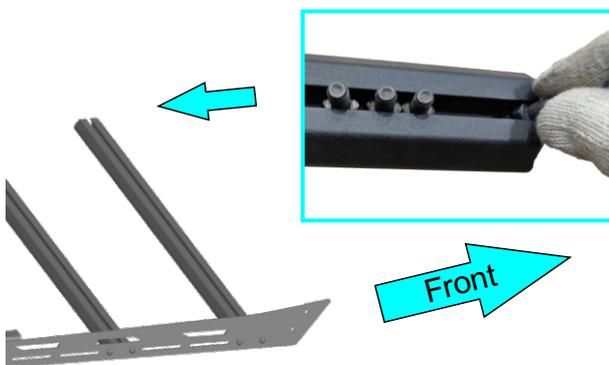
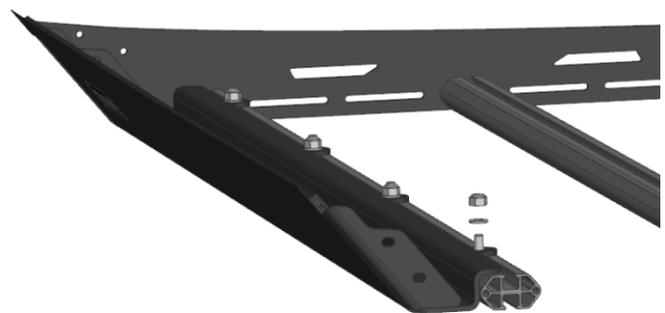

Fig. 14
Fig. 15
12. Insert 4 M8x20 bolts (item B) into the T-slot of the front aluminum profile (item 2) as shown in fig. 14. Secure wind deflector (item 1) to the pre-installed aluminum profile using M8x20 bolts (item B), washers 8 (item J), nuts 8 (item G) as shown in fig. 15.